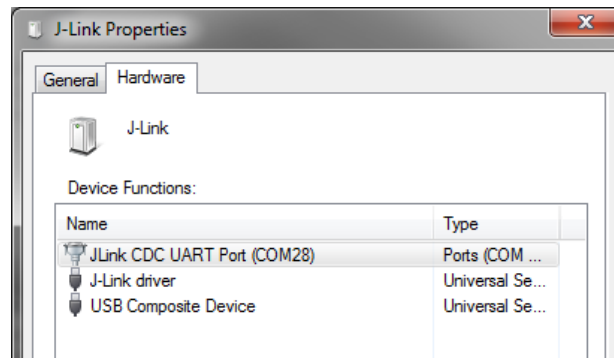

Figure 14: DWM1001 Device COM port over J-Link
- 3) Double click the J-Link icon, go to Hardware tab and find the COM port with number as the device name (e.g. in Figure 14 below J-Link is device name is COM28).